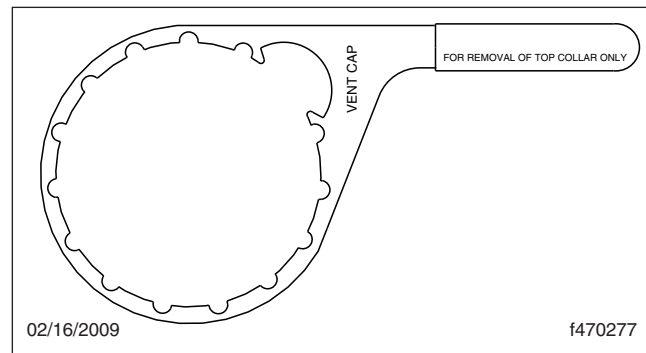

Fig. 3, DAVCO Collar Wrench
5. Using a DAVCO Collar Wrench, shown in Fig. 3, remove the clear cover and collar.
4. Using a DAVCO Collar Wrench, shown in Fig. 3, remove the clear cover and collar.